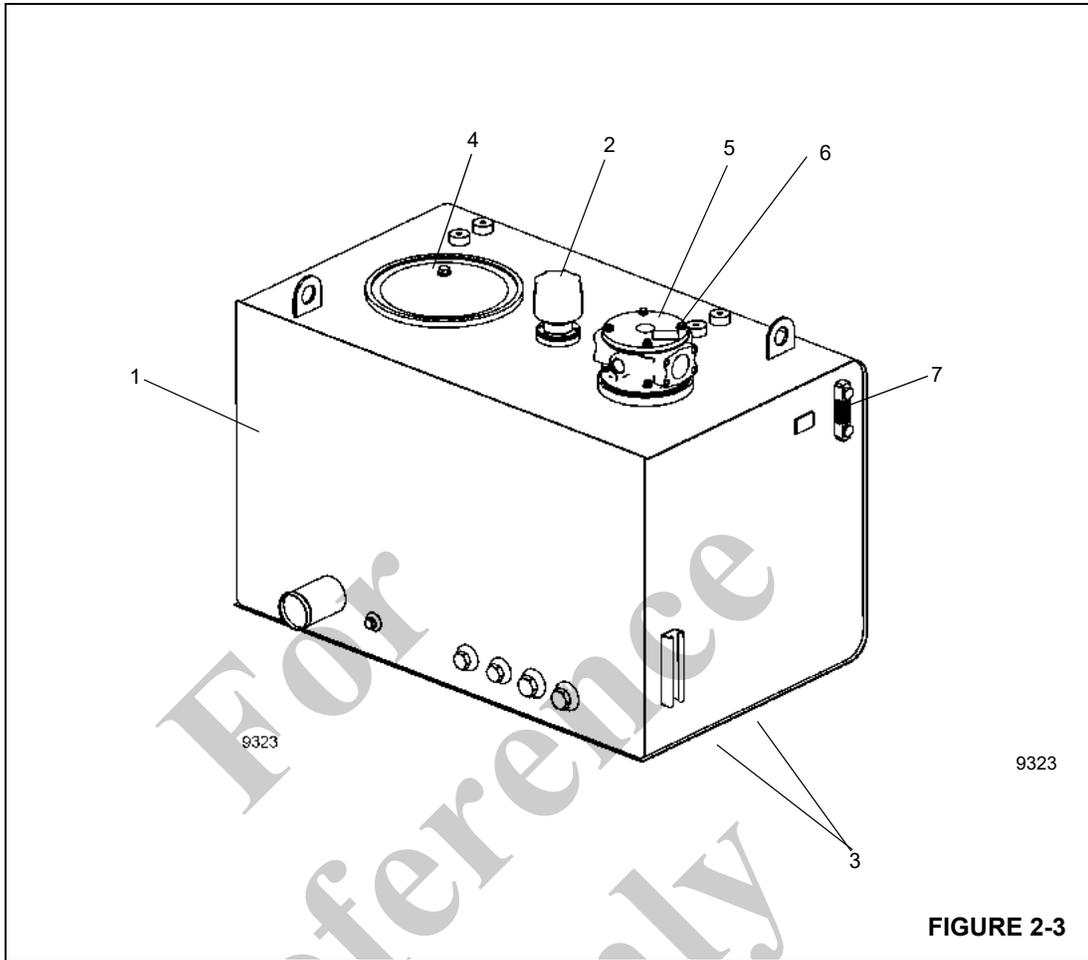

FIGURE 2-3
The reservoir Figure 2-3, attached to the right side of the carrier frame, has capacities listed in the following table.
A filler cap (2), (Figure 2-3) on the top of the reservoir is for filling the reservoir. The filler cap includes a strainer for catching contaminants and gaskets to prevent leaking. A breather cap (vent) is located on top of the reservoir to allow air to enter or exhaust to escape from the reservoir. It is most important that the breather be kept clean to prevent damage to the reservoir.
The hydraulic oil filter (Figure 2-3) and (Figure 2-4) is located in the reservoir. It is installed to the top of the reservoir, and its bypass outlet is integral to the filter housing. The filter housing contains a replaceable filter element. Returning hydraulic oil flows through the filter head, through the filter element, and into the reservoir.